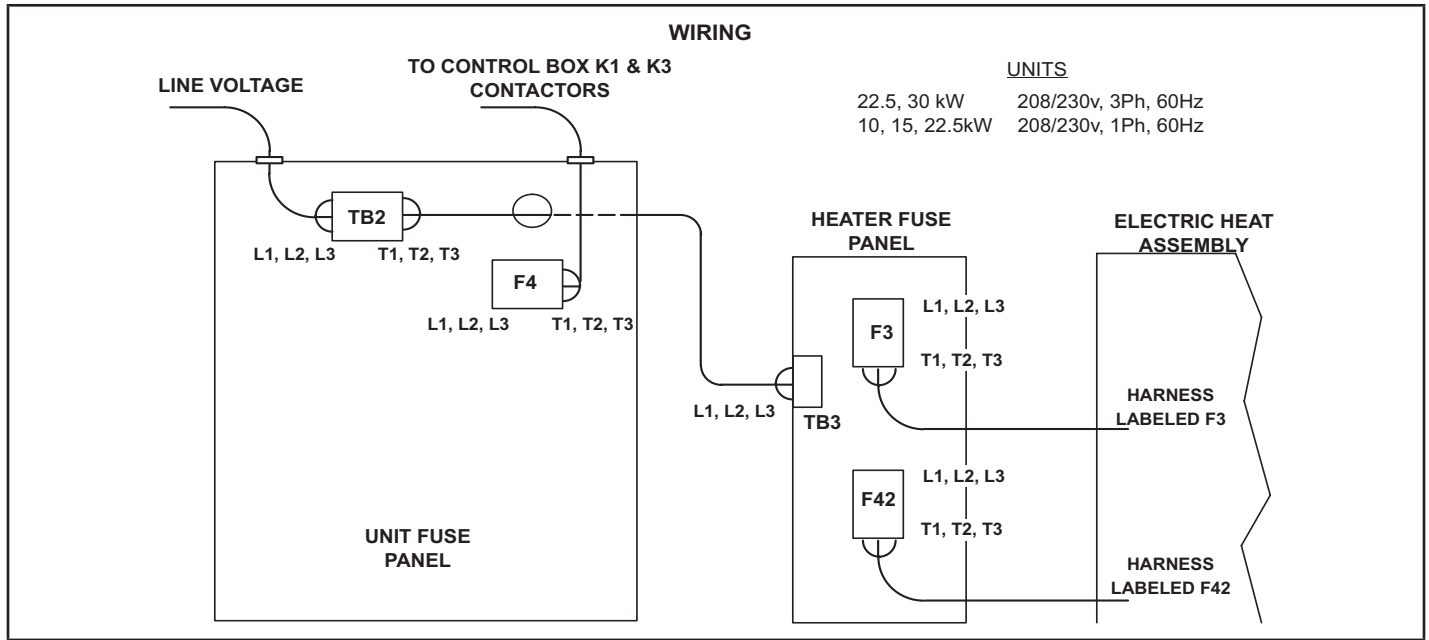
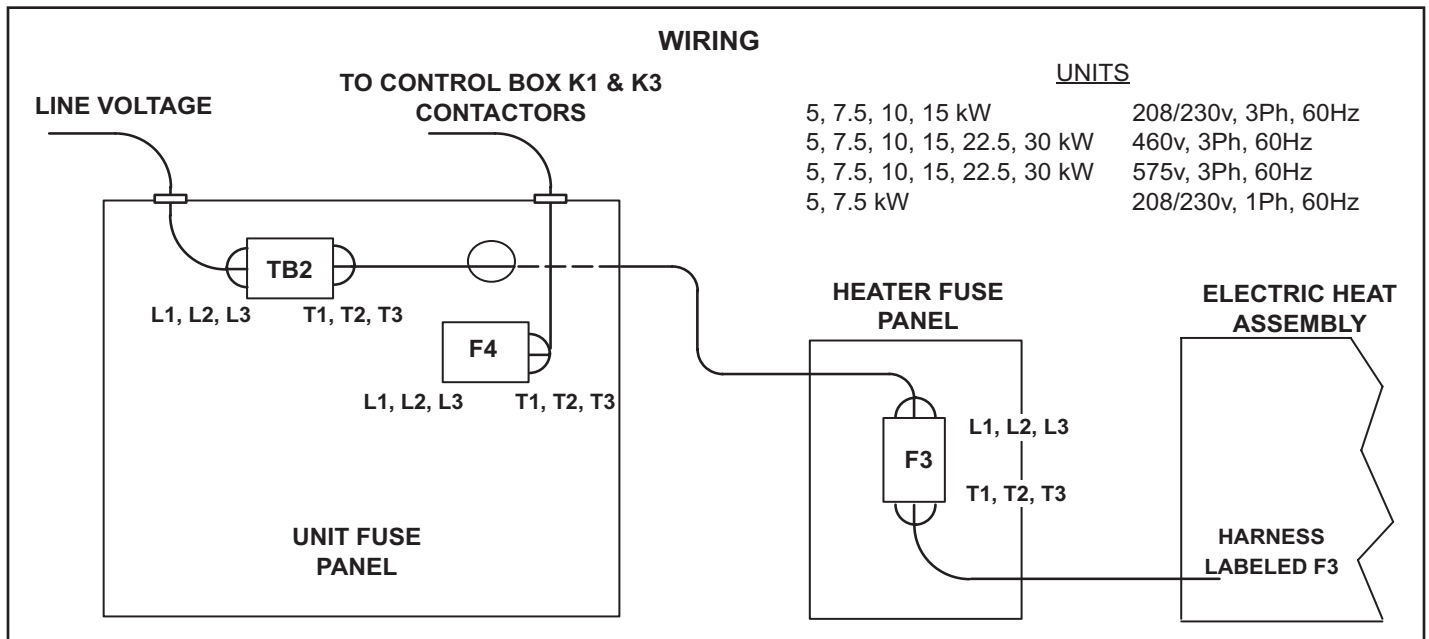

FIGURE 5
FIGURE 6
- 1 - Set heater fuse panel near the heat control section opening. Make wiring connections as shown in FIGURE 5 or FIGURE 6.
Wiring must conform to local codes and the current NEC/CEC. Refer closely to FIGURE 5 or FIGURE 6, the wiring diagram on the unit and the following information: If heater is being installed in an existing unit, a change in power supply wiring may be required. Remove the original supply wires or disconnect at power source. Refer to heater nameplate for minimum circuit ampacity and maximum fuse size.
- 2 - Route power wires from electric heat assembly to control area. Connect wire to load side of TB2 terminal block. Refer to FIGURE 5 or FIGURE 6